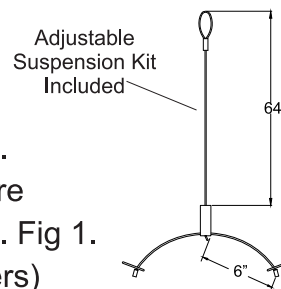

FIG. 1
2. Check the fixture location and wiring location before installing the Adjustable Suspension Kit (Included). Fig 1.